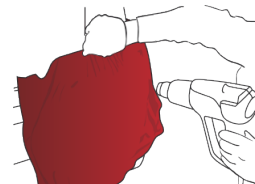

Figure 17
- › After this operation, heat to a temperature ranging from 40 °C to 50 °C (from 104 °F to 122 °F) (FIG. 17) (30 °C to 40 °C (86 °F to 104 °F) HX30CA890B, HX30CANCOB, HX30CANPEB, HX30CAF89S and HX30HC889S) and stretch to eliminate all folds using the squeegee.